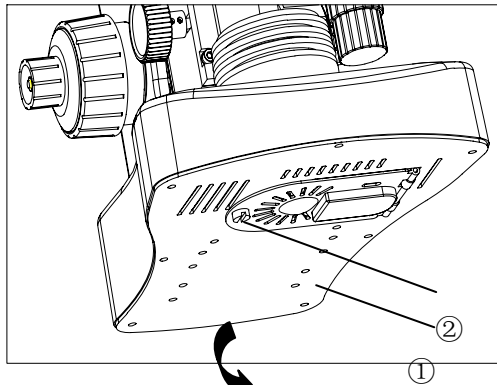

Fig.11
**2.2.7 Installing and replacing the lamp (Fig.11,12,13)**